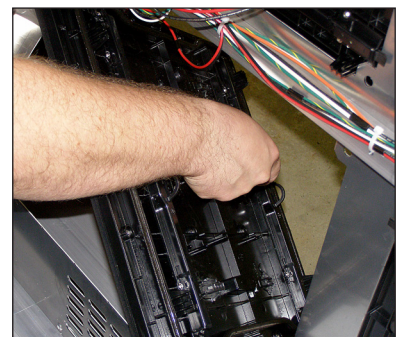

Figure 20: Rotate Module To Clear Face Sheet
1. Rotate and carefully guide the module through the module opening. Refer to **Figure 20**.